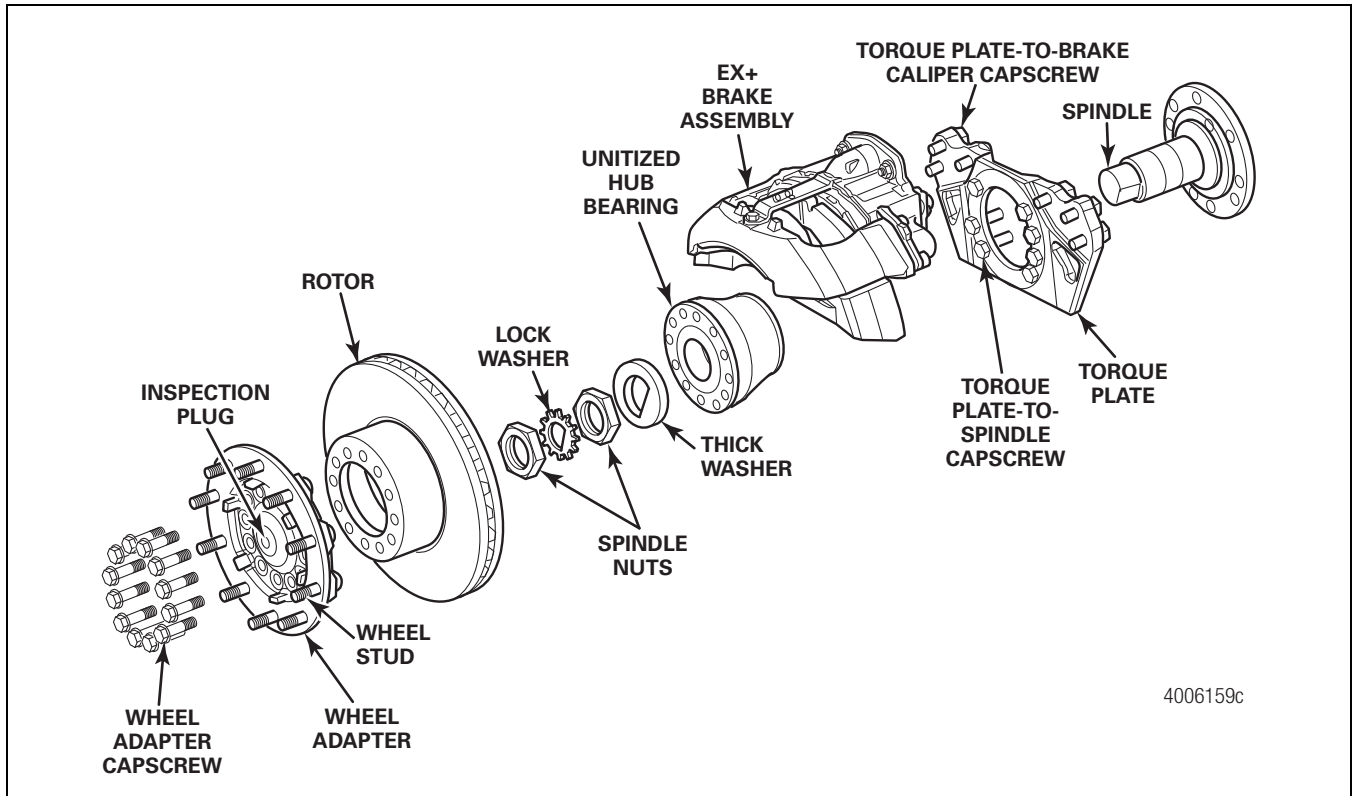

Figure 13.23
4. Remove the wheel adapter and rotor. Inspect the rotor for cracks and signs of wear. Replace the rotor if necessary. Figure 13.23.